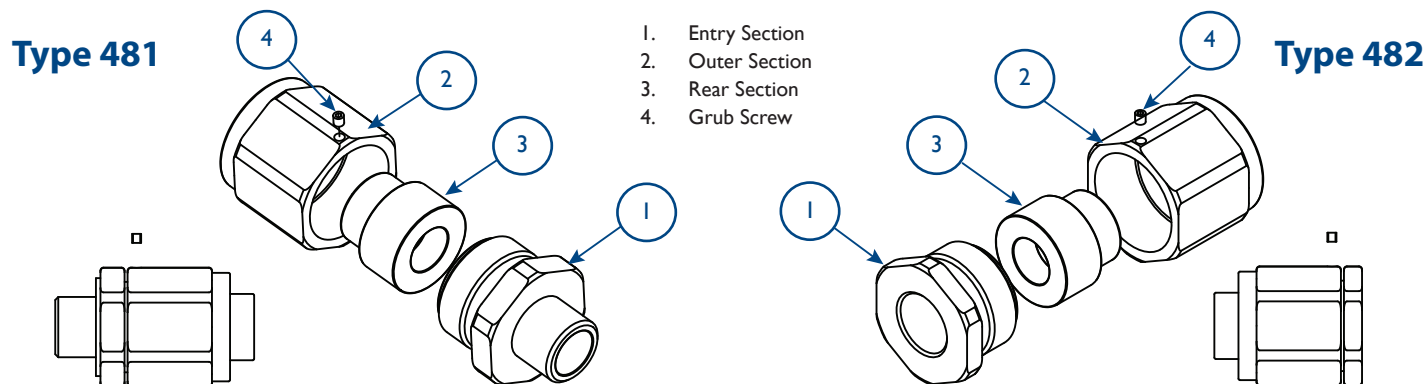

Fig. 1
1. Ensure that the thread sizes and thread forms in the union are compatible with that of the equipment (Fig. 1)
2. Loose and remove the 3mm grub screw and place in a safe place (Fig 1), disassemble union.